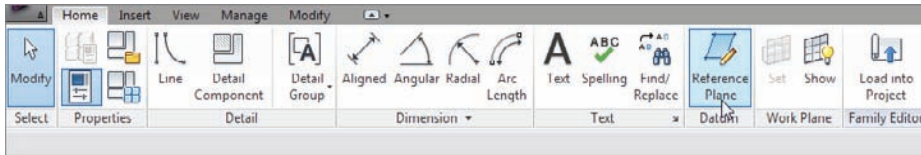

FIGURE 17.1 The Reference Plane button on the Home tab
1. On the Datum panel of the Home tab, click the Reference Plane button, as shown in Figure 17.1.